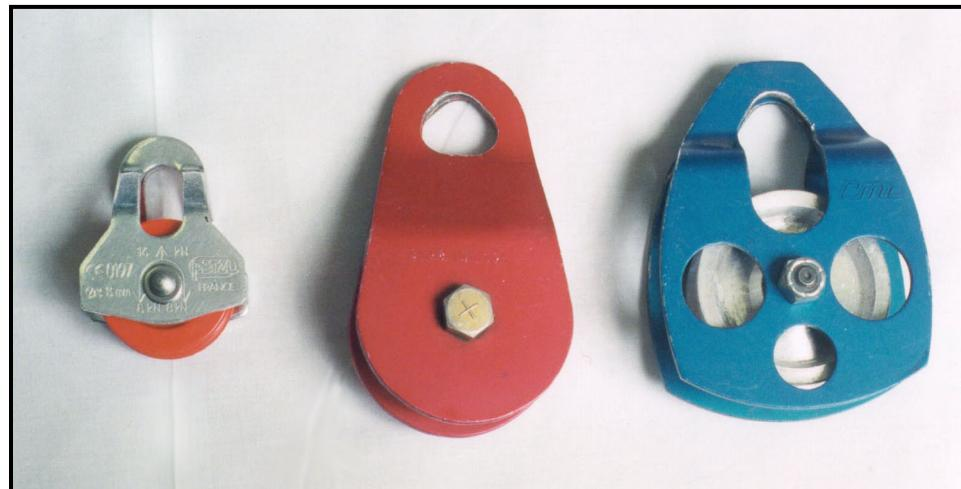

Figure 3-23. Pulley.
1. Pulleys. Pulleys are used to change direction in rope systems and to create mechanical advantage in hauling systems. A pulley should be small, lightweight, and strong. They should accommodate the largest diameter of rope being used. Pulleys are made with several bearings, different-sized sheaves (wheel), and metal alloy sideplates (Figure 3-23). Plastic pulleys should always be avoided. The sideplate should rotate on the pulley axle to allow the pulley to be attached at any point along the rope. For best results, the sheave diameter must be at least four times larger than the rope's diameter to maintain high rope strength.